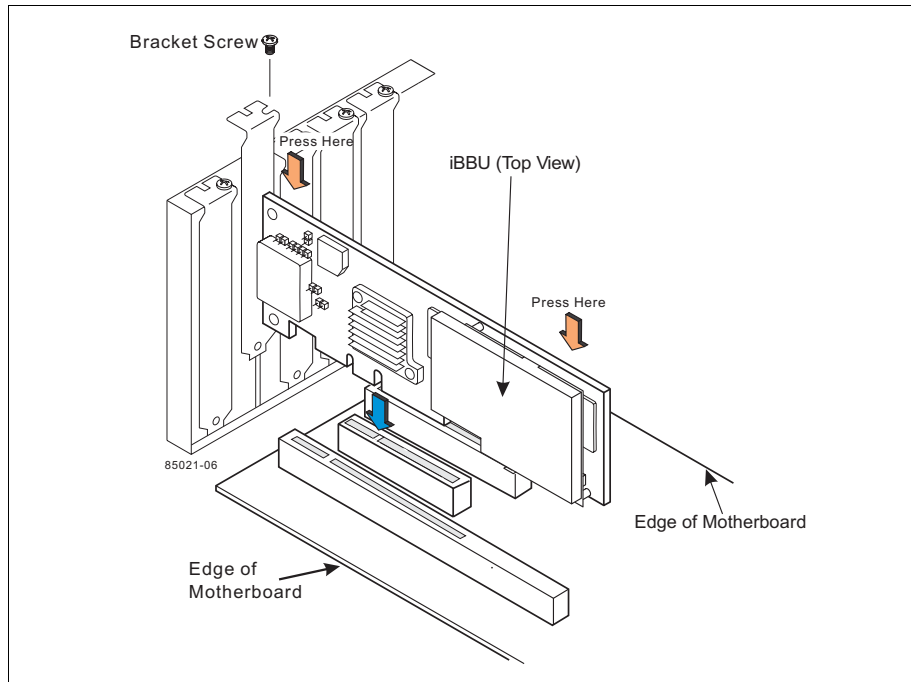

Figure 3-28 ServeRAID MR10M installation
6. Insert the controller in a PCIe slot as shown in Figure 3-28 on page 141